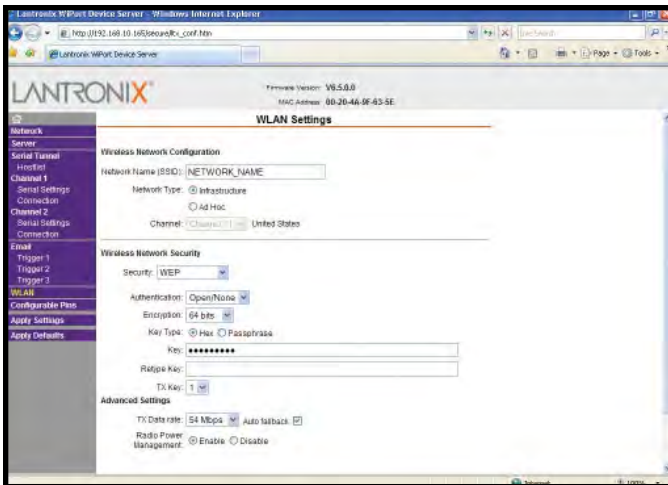

Figure 96. WLAN Settings
- VII. Click on the "WLAN" link located in the left-hand margin (see Figure 96).